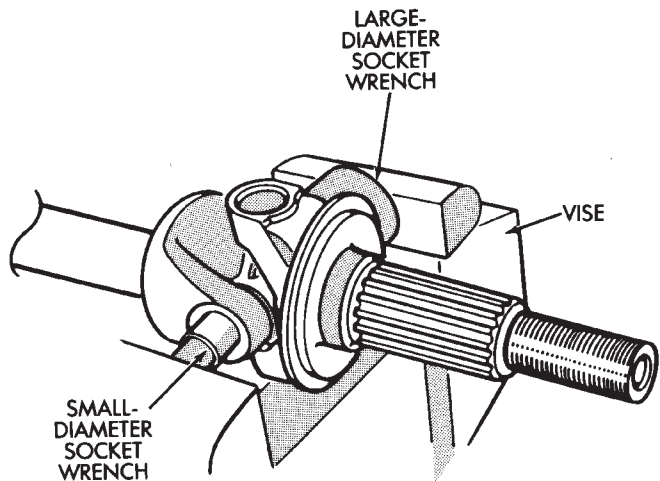

Fig. 8 Yoke Bearing Cap Removal
(2) Locate a socket that is larger in diameter than the bearing cap. Place the socket (receiver) against the yoke and around the perimeter of the bearing cap to be removed. Locate a socket that is smaller in diameter than the bearing cap. Place the socket (driver) against the opposite bearing cap. Position the yoke with the sockets in a vise (Fig. 8).
(3) Compress the vise jaws to force the bearing cap into the larger socket (receiver).
(4) Release the vise jaws. Remove the sockets and bearing cap that was partially forced out of the yoke.
(5) Repeat the above procedure for the remaining bearing cap.
(6) Remove the remaining bearing cap, bearings, seals and spider from the propeller shaft yoke.